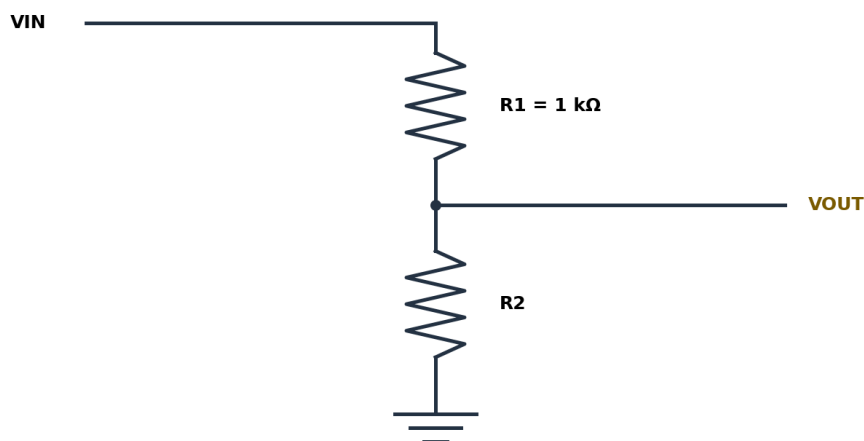

Figure 1. Divider used for DC sweep and loading analysis.
1. Draw Figure 1 with $R1 = 1\text{ k}\Omega$ and $R2 = 2.2\text{ k}\Omega$. Name the source node VIN and output node VOUT.